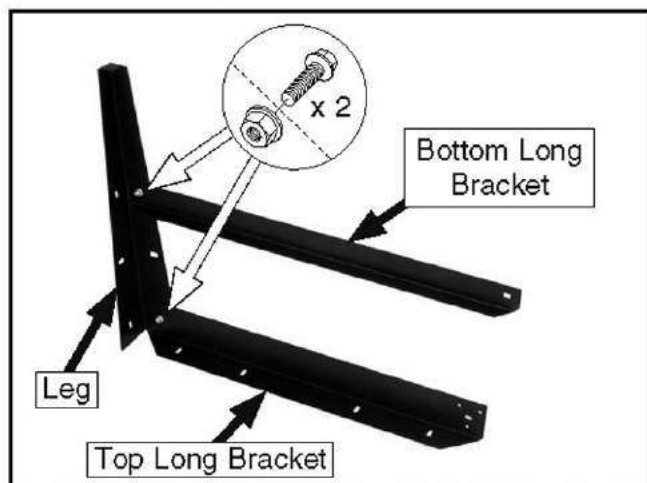

Figure 4. Top and bottom long brackets secured to a stand leg.
2. Mount a top and bottom long bracket to a stand leg and secure by hand with (2) M8-1.25 x 15 carriage bolts and (2) M8-1.25 flange nuts, as shown in **Figure 4**.